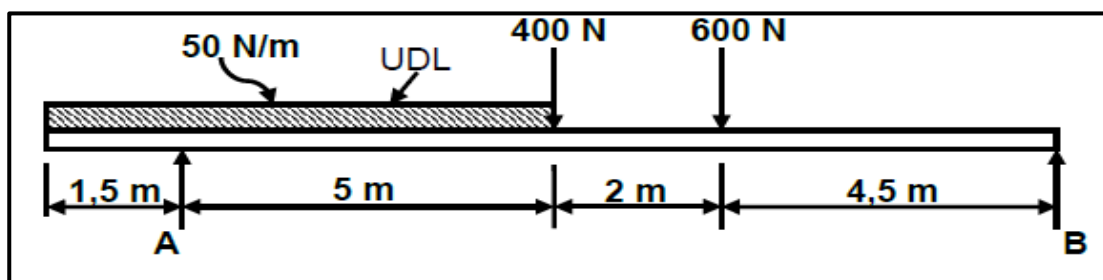

FIGURE 8.2
- 8.2 FIGURE 8.2 below shows a beam with two vertical applied point loads of 400 N and another 600 N and also a 50 N/m uniformly distributed load for a span of 6,5 m.